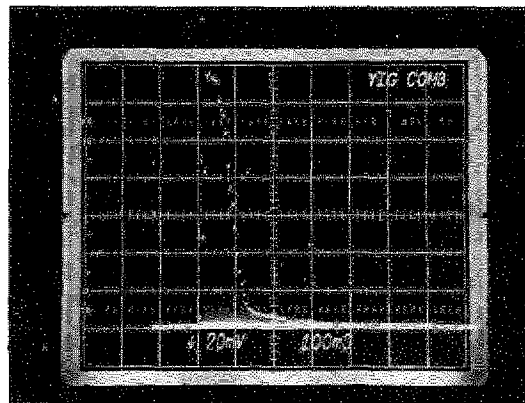

FIGURE 5-2
b. Connect a 1 - 18 GHz broadband calibrated detector to A207J1. The detector output should match Figure 5-2.
- (1) 0 to 2 volt positive-going ramp at YIG Control A202J3 pin 5.
- (2) RF power at A207J2 (from Source/Amplifier).